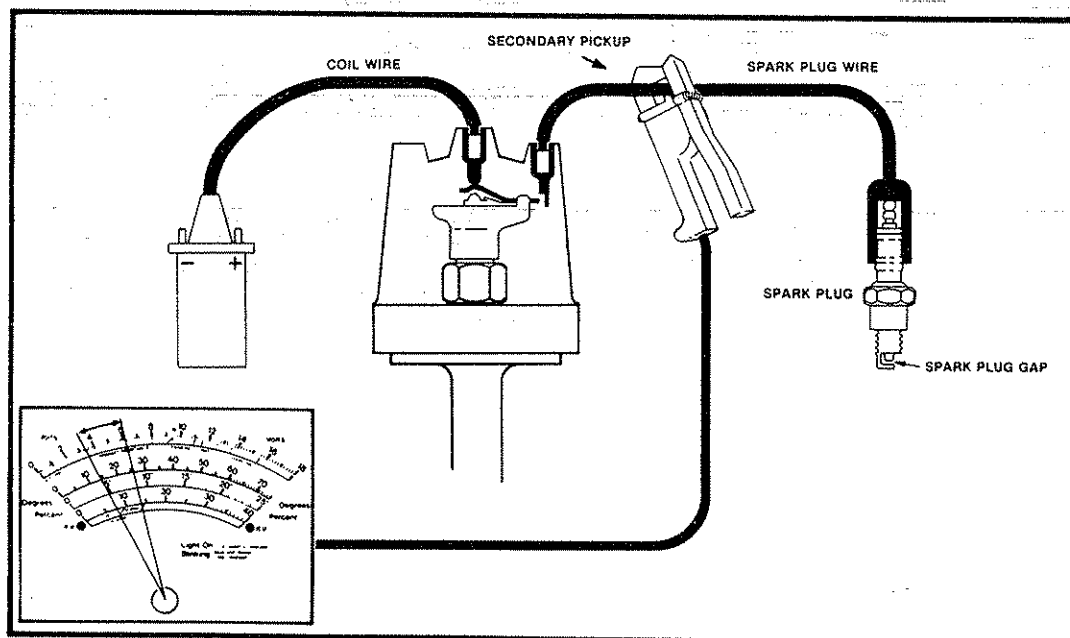

Figure 43
2. Connect Secondary Pickup around Spark Plug Wire of low cylinder as shown in figure 43 or 45. Note reading.